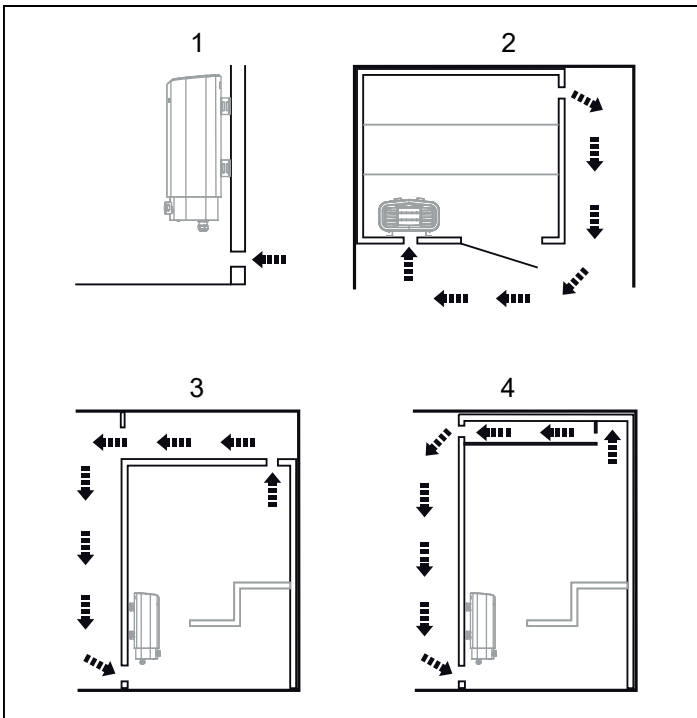

Figure 4: Air intake and exhaust vent positioning
- Position the air intake vent (see the Air intake vent positioning section, figure 4).
- Position the air exhaust vent (see the Air exhaust vent positioning section, figure 4).
- at the maximum possible distance from the air intake vent, e.g. diagonally (see Figure 4).
- high on the wall or on the ceiling (see Figure 4).